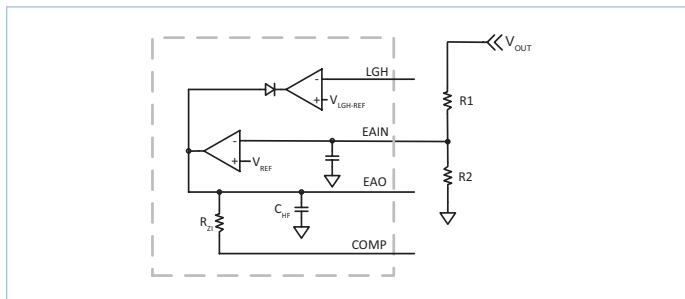

Figure 51 — External resistor divider network
The PI354x-00 family of Buck Regulators utilizes an internal reference (V_{REF}). The output voltage setting is accomplished using external resistors as shown in Figure 51. Select R2 to be at or around $1k\Omega$ for best noise immunity. Use Equations (1) and (2) to determine the proper value based on the desired output voltage.